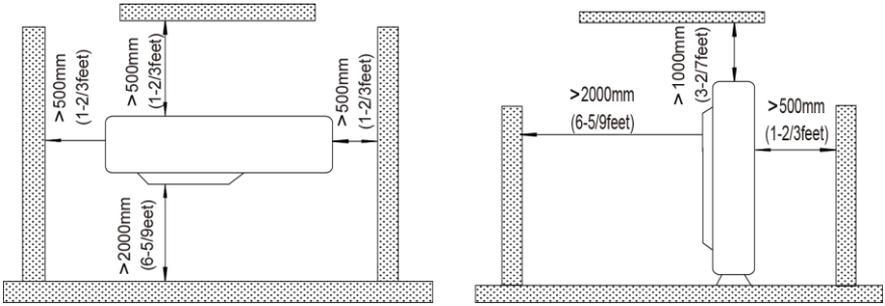

Fig. 3.2
- (1) If possible, do not install the unit where it will be exposed to direct sunlight. (If necessary, install a blind that does not interfere with the air flow.)
- (2) Install the outdoor unit in a place where it will be free from getting dirty or getting wet by rain as much as possible.
- (3) Install the outdoor unit where it is convenient to connect the indoor unit.
- (4) Install the outdoor unit where the condensate water can be drained out freely during heating operation. Do not place animals and plants in the path of the warm air.
- (5) Take the air conditioner weight into account when installing and select a place where noise and vibration will be minimal.
- (6) Install the outdoor unit where is capable of withstanding the weight of the unit and generates as less noise and vibration as possible.
- (7) Provide the space shown in Fig. 3.2, so that the air flow is not blocked. Also for efficient operation, leave three of four directions of periphery open.